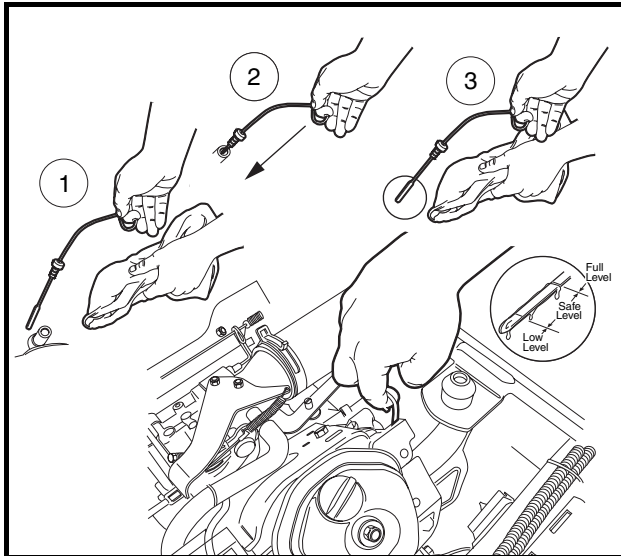
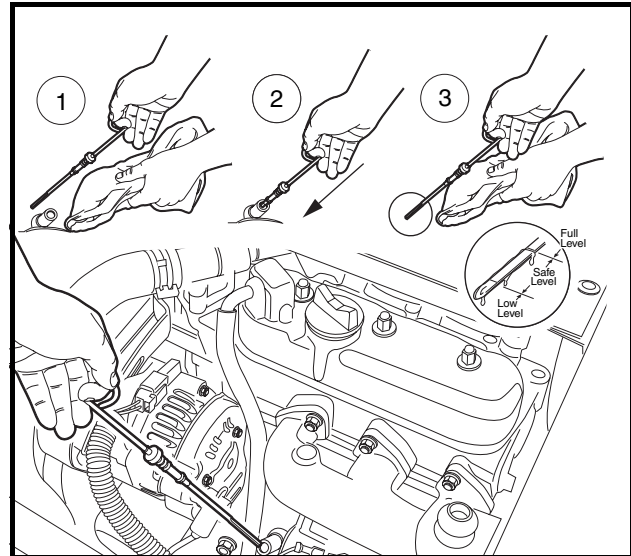

Figure 19 Engine Oil Level Check – Gasoline Vehicles
Figure 20 Engine Oil Level Check – Diesel Vehicles
1. Remove the oil level dipstick from the oil filler tube and wipe oil from the dipstick. **See Figure 19 or Figure 20. See following CAUTION.**